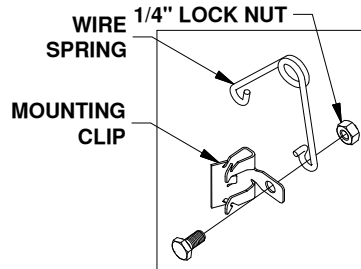
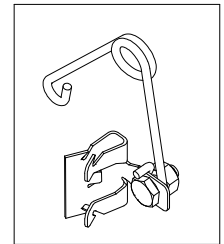

FIGURE B1:
FIGURE B2:
1. Locate the 1/4" cap screw and nut, along with the wire tension spring and mounting clip. Pass the 1/4" cap screw through the mounting clip and the wire spring as shown in figure B1. Thread the 1/4" lock nut onto the 1/4" cap screw. Tighten the lock nut just enough that the spring will stay in place but will still be able to rotate around the bolt if needed, see figure B2.